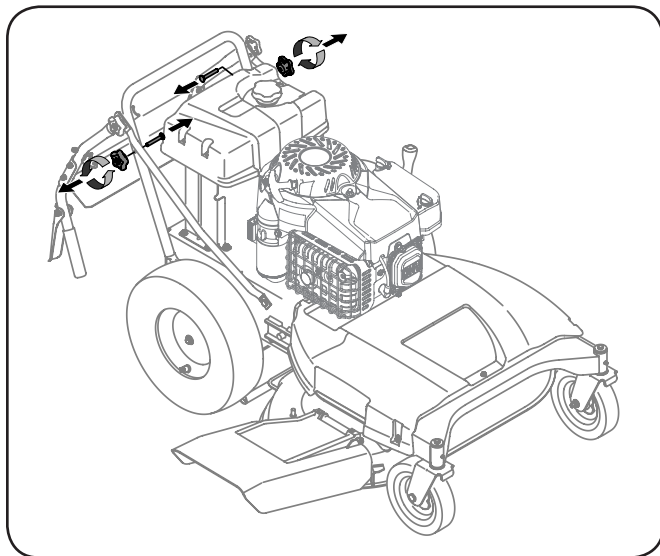

Figure 3-3
1. Remove the star knobs (a) and carriage screws (b) from the lower handle. See Figure 3-3.